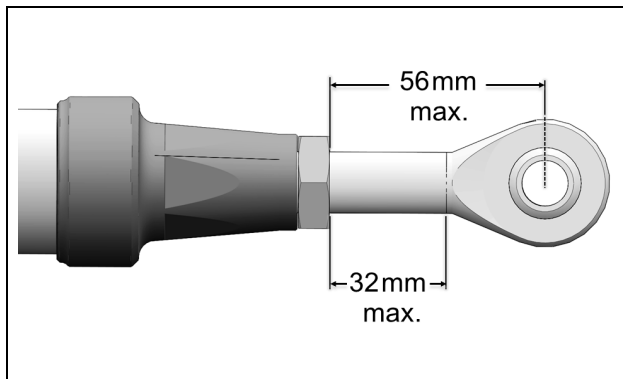

Figure 29
**CAUTION:** The rod end can be extended up to a specified maximum length. Do not go over 32mm of visible threads on the rod end or 56mm between lock nut and center of rod end. See Figure 29.